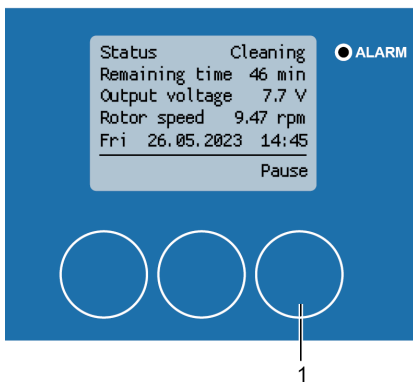

Fig. 164: Pause cleaning process
1. Press [Pause] (Fig. 164/1) to pause the cleaning process.